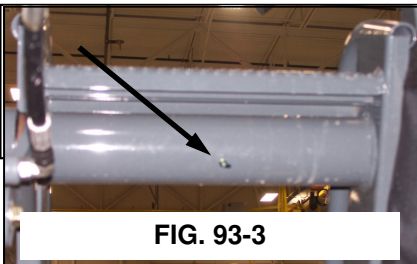

FIG. 93-3
**LADDER**– The ladder pivot tube (figure 93-3) has a grease zerk that needs to be lubed every 50 hours or as needed.